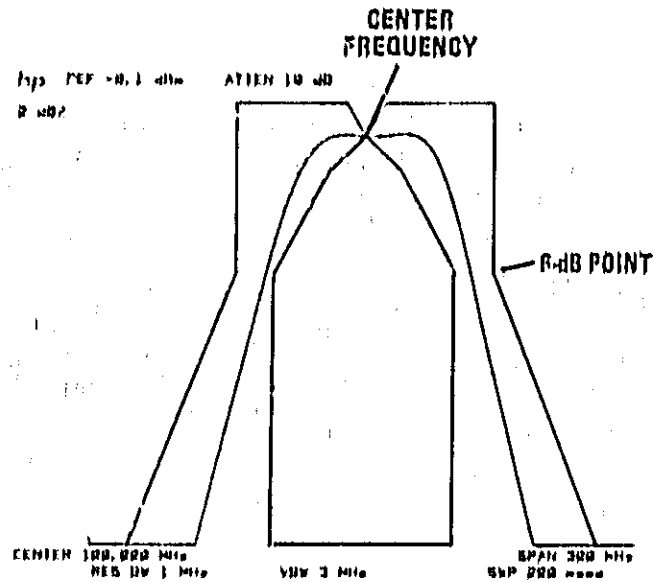

Figure 4-3. Error Limits for 120-kHz Bandpass Filter
Bandpass filter response characteristics conform to the limits of overall selectivity specified by Publication 16 of Comite International Special des Perturbations Radioelectriques (CISPR). The curve representing the overall selectivity of the HP 85650A shall lie within the limits shown in Figures 4-3, 4-4, and 4-5.
5. On spectrum analyzer, set **CENTER FREQUENCY** to 20 MHz (100 MHz). Use DATA knob to center filter response inside error limits (Figure 4-3). Displayed CENTER indication must be $20,000 \pm 0,060$ MHz ($100,000 \pm 0,060$ MHz).
6. On spectrum analyzer, press **REFERENCE LEVEL**. Use DATA knob to place displayed signal at center frequency reference point of error limit graph (Figure 4-3). Waveform of 120-kHz filter must be within error limits. If displayed response is near error limit at bottom of CRT display, key in **REFERENCE LIMIT** **DOWN** to allow checking of lower portion of response down to -20 dB from reference point. Press **MARKER** **LM1** and position marker (with DATA knob) to lowest point on left side of displayed response. Press **MARKER** **UM1** and position second marker to lowest point on right side of displayed response. MKR Δ indication must be less than 280 kHz.